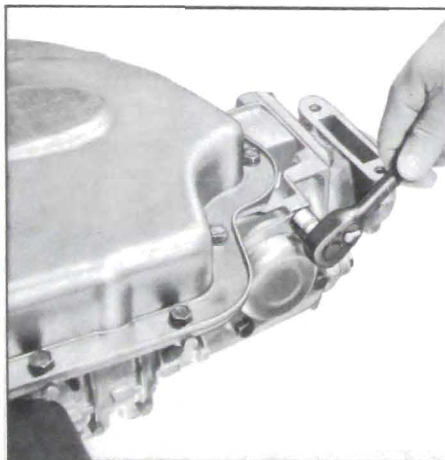

Figure 5-503
1. Remove attaching screws, governor cover and gasket. See Figure 5-503.